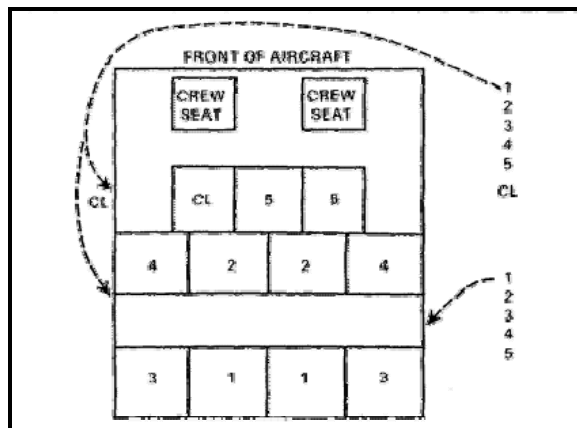

Figure 8-9. UH-60 loading diagram (whole chalk).
- The far side and near side groups move to the aircraft in file, with the No. 1 man leading the load to the appropriate side (see Figure 8-9).